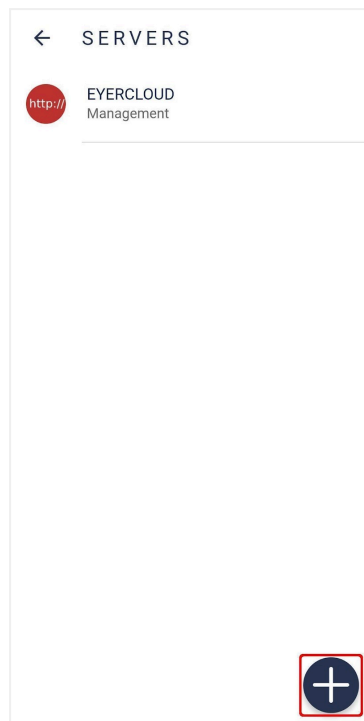

Figure 90: Servers list
Option 4. "Servers", enables accessing available servers, figure 90.
Select button , figure 90, to add a new server. Select the server type to synchronize, figure 91, and fulfill information as described in item 3.2.4.3.4.1 Common server setup.